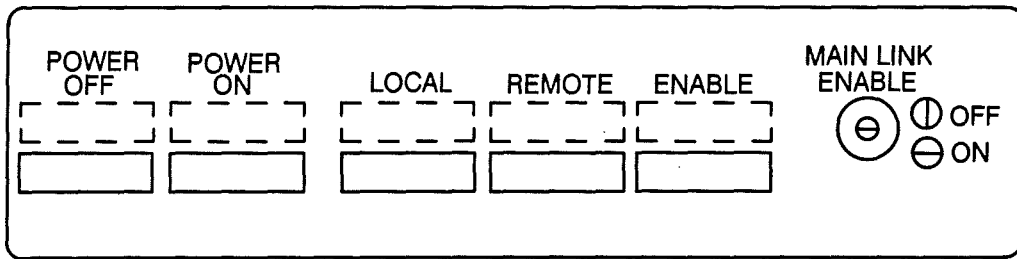

Figure 1-3. V 500 System Control Panel (Processor Cabinet)
Figure 1-3 represents a V 500 system control panel.
1. Locate the V 500 system control panel (refer to Figure 1-3) in the upperleft corner of the processor cabinet.